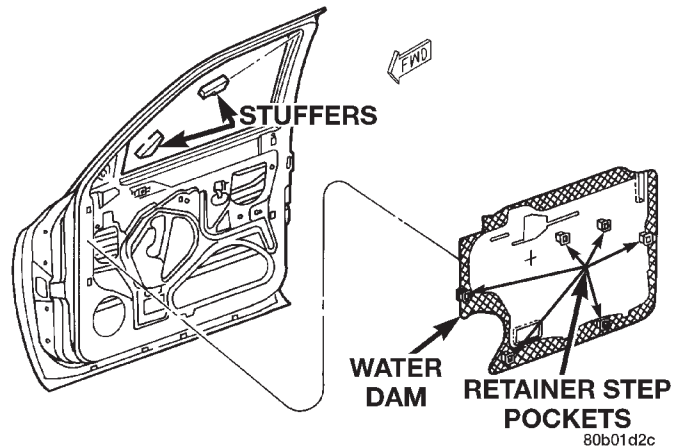

Fig. 26 Water Dam
- (1) Remove the trim panel from the door.
- (2) Carefully separate the waterdam from the door inner panel at the areas with adhesive (Fig. 26). Remove the waterdam from the door inner panel.